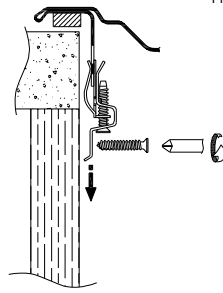

Fig 11:
2. With the sink straight pull the clip down hand tight. Whilst doing this secure the clip to the cabinet wall using a suitable screw (fig. 11 & 12).